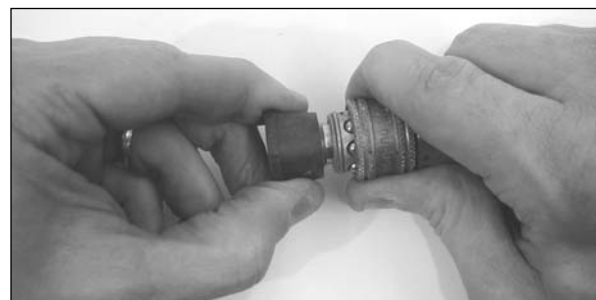

Figure 15 - Quick Connect Tip
3. Use the BLACK 65° quick connect spray tip (all models) (See Figure 15).